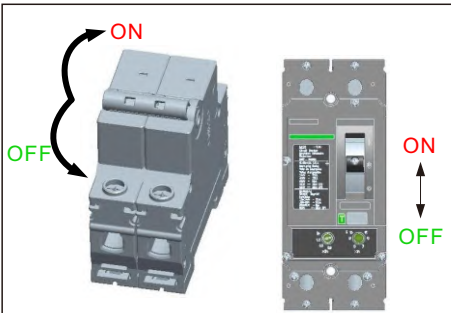

Figure 1
- 3.Close the inverter input breaker of the SYN 200-XH-US, as shown in Figure 1.